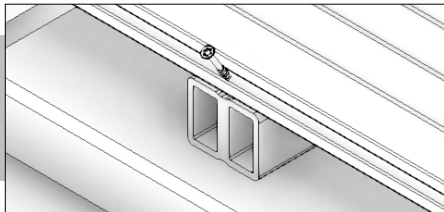
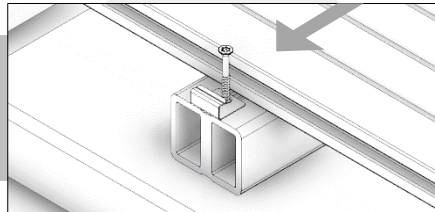
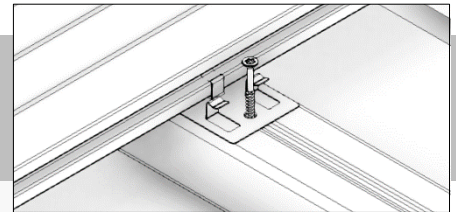

FIG. 8
FIG. 9
FIG. 10
- The first and last boards can be mounted using end clips (Fig. 9) or by using screws in the side grooves (for example at the last board, when a clip cannot be used anymore) (Fig. 8). Intermediate clips can be used between boards (Fig. 10).